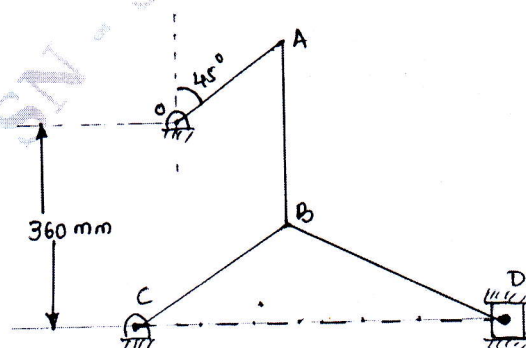

Fig.Q4(b)
- b. Locate all the instantaneous centres for the toggle mechanism shown in Fig.Q4(b).